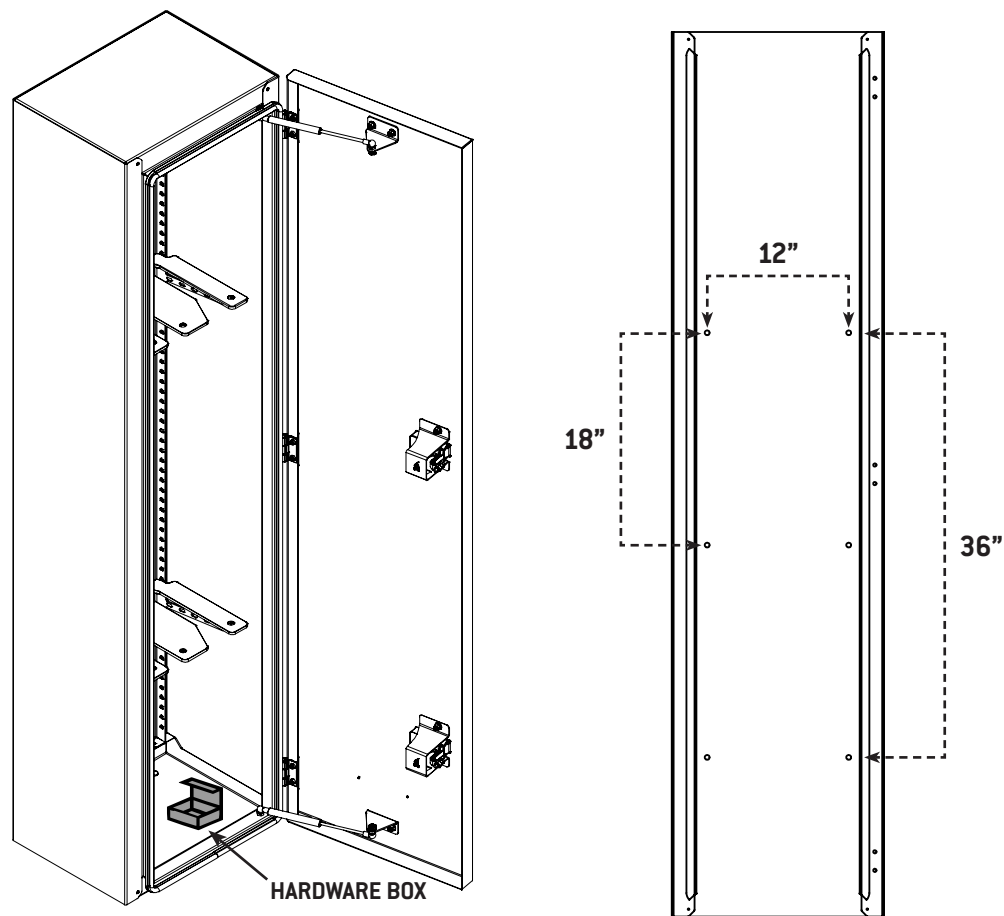

FIG 1
1.1 Dry fit the box to your mounting surface and determine the desired height of install. If you'd rather measure, see **FIG 1** for distances between the mounting points.